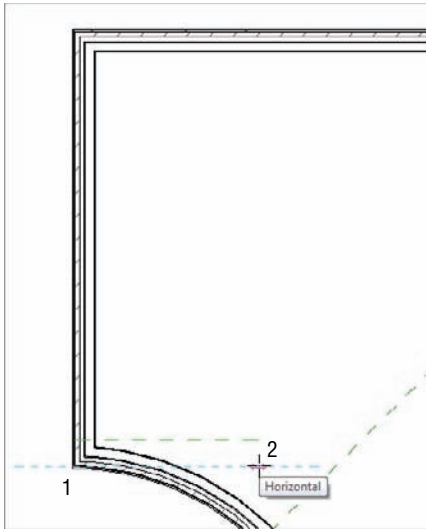

FIGURE 4.17 Creating the reference plane
1. Zoom in on the west section of the west wing, as shown in Figure 4.17.
4. Pick the corner of the radial wall, where it intersects the straight wall, for the first point of the reference plane, as shown in Figure 4.17.
5. Pick a second point similar to that shown in Figure 4.17 to finish the reference plane.